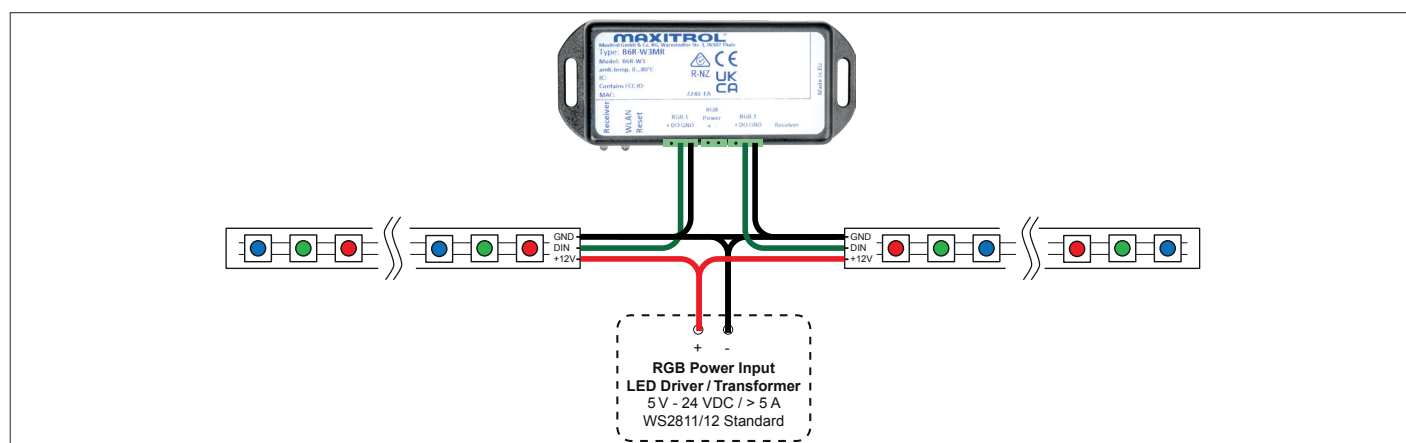

Figure 26: LED setup 2 (Indirect connection)
- Connection of data output (DO) and ground (GND) from the LED RGB control output of the Wi-Fi Box to the RGB LEDs (see figure 26).